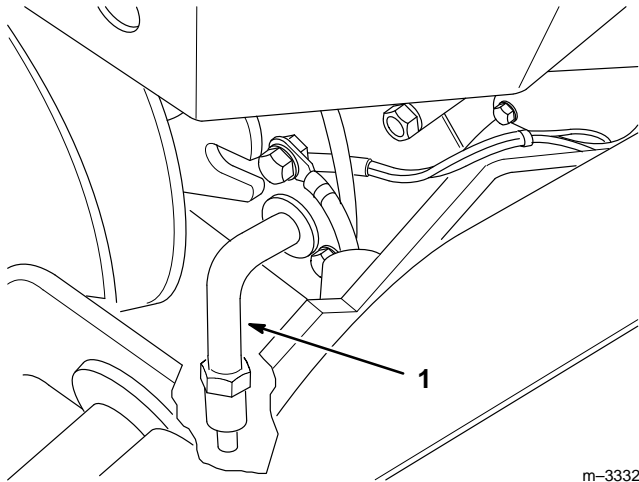

Figure 31
4. Place a pan below the oil drain. Open the drain by turning it counterclockwise 1/8 turn and pulling out on it (Fig. 31).